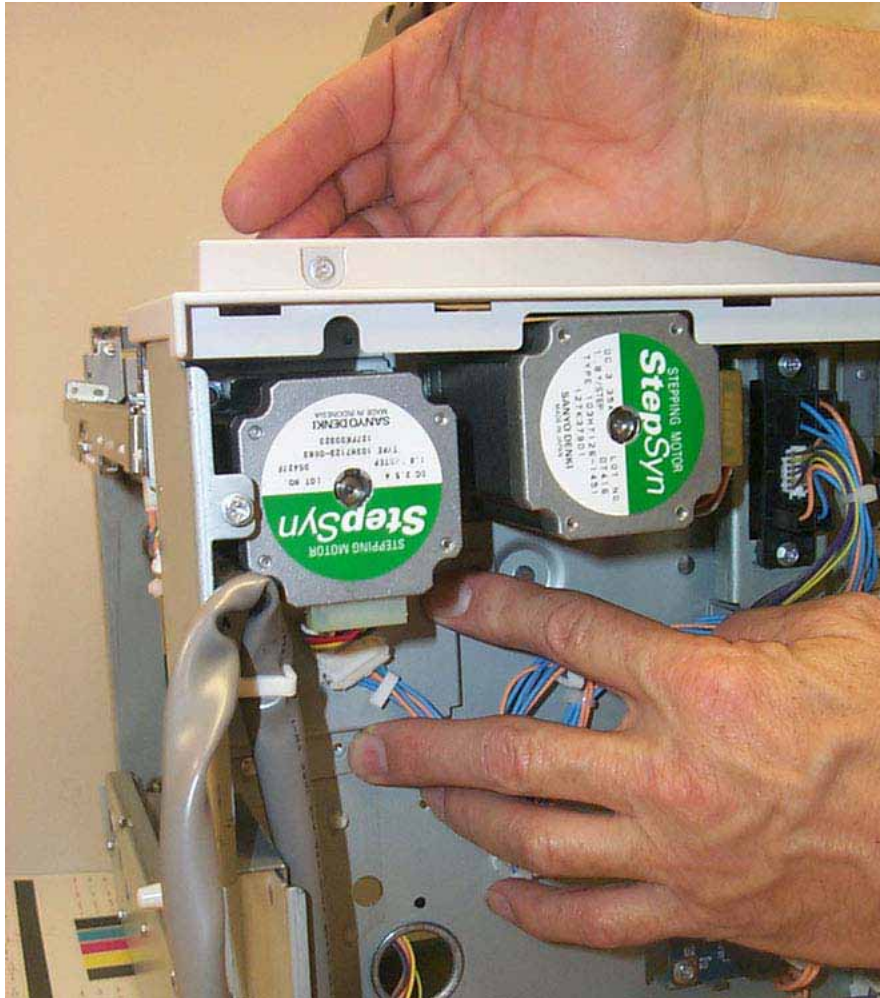

Figure 1 Removing the HCF Feed Motor
- Remove the (4) securing screws.
6. Supporting the motor with one hand, remove the HCF Feed Motor. Figure 1
- Disconnect the electrical Connector (1).
- Remove the (2) securing screws.